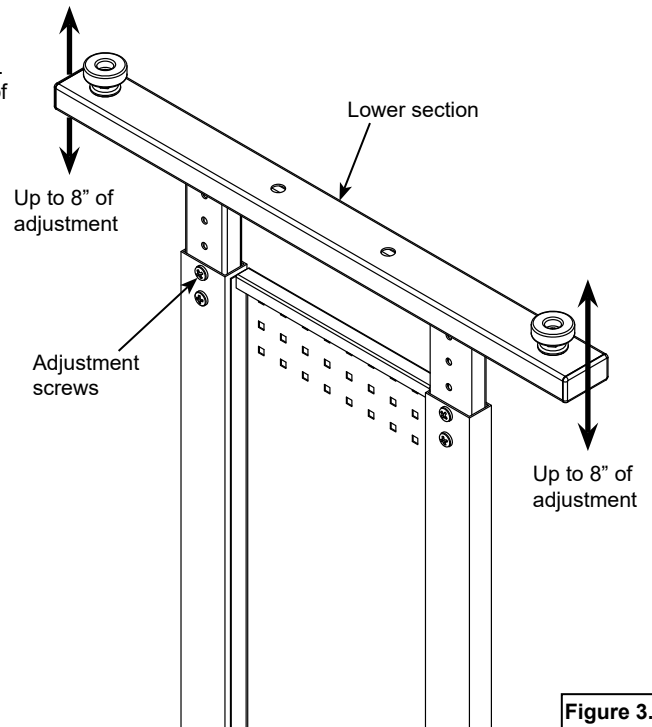

Figure 3.4
1. To adjust the legs, remove the (4) pre-installed adjustment screws. (Fully-support the lower section of the leg while removing). **Figure 3.4.**
3. Install the (4) previously removed screws in the new holes and tighten securely.